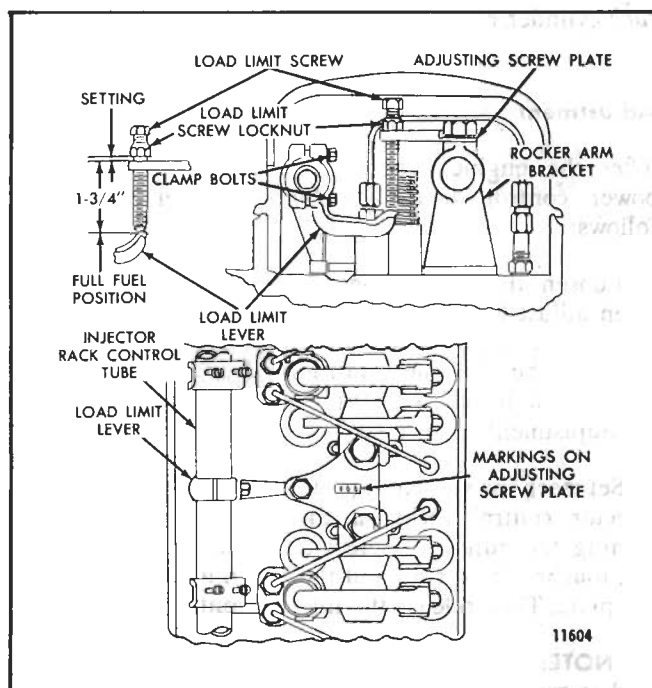

Fig. 1 - Engine Load Limit Device
Engines with mechanical governors may be equipped with a load limit device (Fig. 1) to reduce the maximum horsepower.
After the engine tune-up is completed, make sure the load limit devices are properly installed as shown in Fig. 1. Make sure the counterbores in the adjusting screw plates are up. The rocker arm shaft bracket bolts which fasten the adjusting screw plate to the brackets are tightened to 75-85 lb-ft (102-115 Nm) torque (all other rocker arm shaft bracket bolts are tightened to 90-100 lb-ft (122-136 Nm) torque). Then adjust the load limit device, on each cylinder head, as follows:
3. With the screw out of the plate, adjust the load limit screw locknut so the bottom of the nut is 1-3/4" from the bottom of the load limit screw (Fig. 1) for the initial setting.